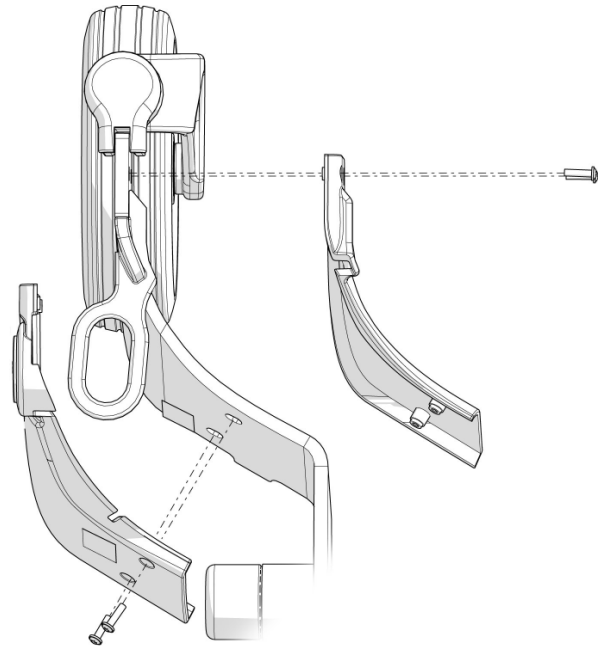

Fig. 1. The link arm covers are fitted with four screws.
3. Remove the four screws holding the link arm covers. See fig. 1.
6. Fit the front link arm covers. Take care of how the lights cabling is placed underneath the cover of the linkarm. See fig. 1 & 2.